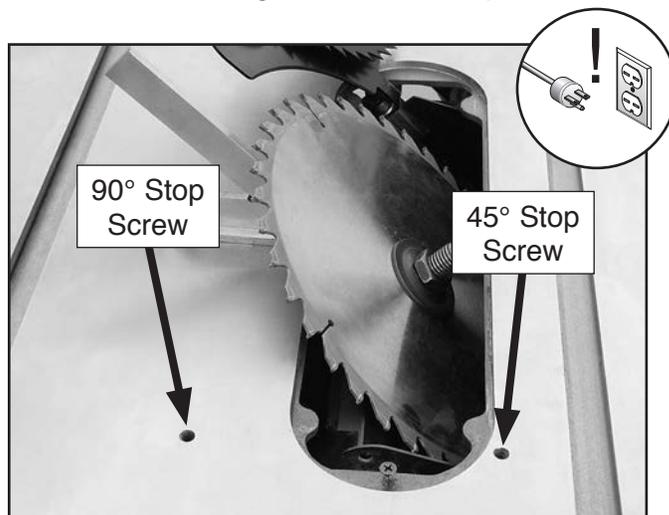

Figure 60. 90° and 45° stop screws.
6. Loosen the 90° set screw shown in **Figure 60**, and then tighten it until it stops.
10. Loosen the 90° set screw shown in **Figure 60**, and then tighten it until it stops.